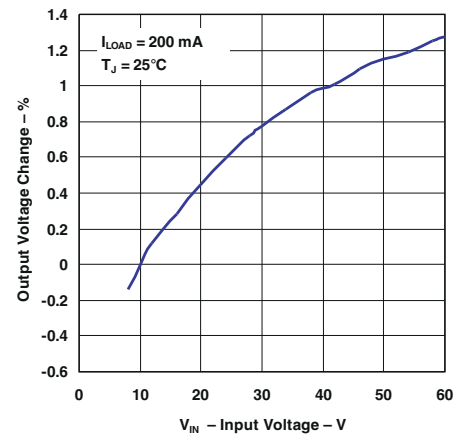

Figure 6-2. Line Regulation
1. Programming Output Voltage (Selecting R1 and R2) Referring to Figure 6-2, V_{OUT} is defined by: $V_{OUT} = V_{REF} \left(1 + \frac{R2}{R1} \right) \quad \text{where } V_{REF} = 1.23 \text{ V}$ Choose a value for R1 between 1 kΩ and 5 kΩ (use 1% metal-film resistors for best temperature coefficient and stability over time). $R2 = R1 \left(\frac{V_{OUT}}{V_{REF}} - 1 \right)$	1. Programming Output Voltage (Selecting R1 and R2) Select R1 = 1 kΩ $R2 = 1 \left(10 / 1.23 - 1 \right) = 7.13 \text{ k}\Omega$ Select R2 = 7.15 kΩ (closest 1% value)